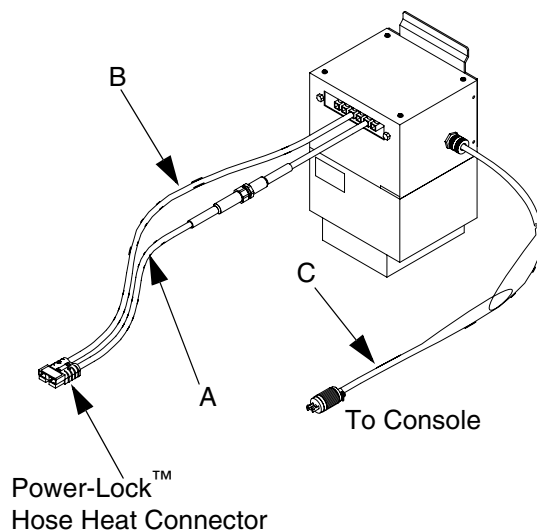
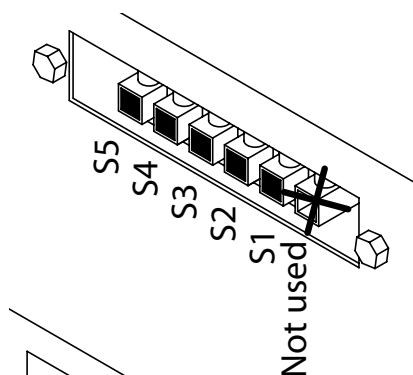

FIG. 5: Transformer Connections
FIG. 6: Manual Tap Settings
4. Use FIG. 5 and FIG. 6 and the following chart to connect tap wires (A) and (B) to transformer taps that match hose length to be used.